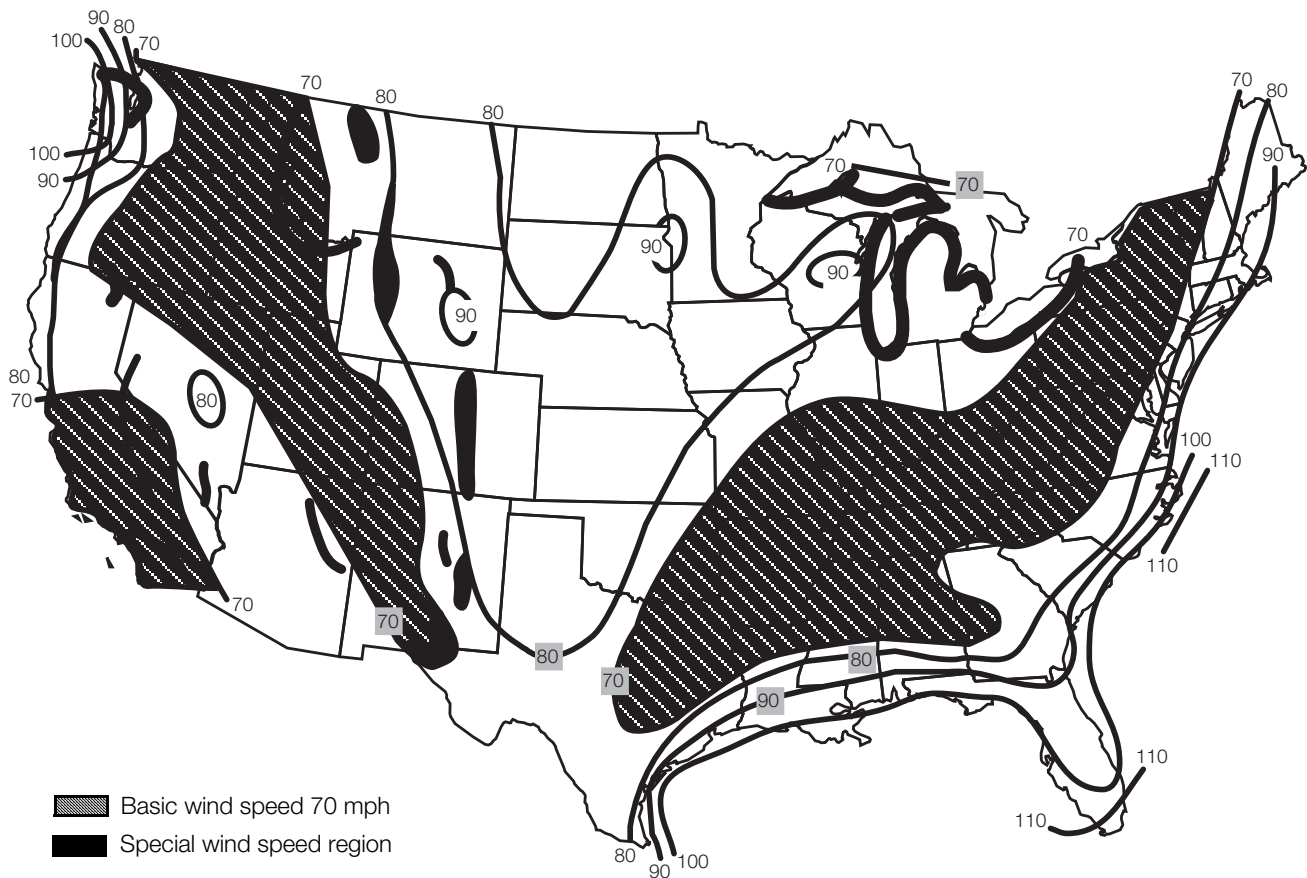
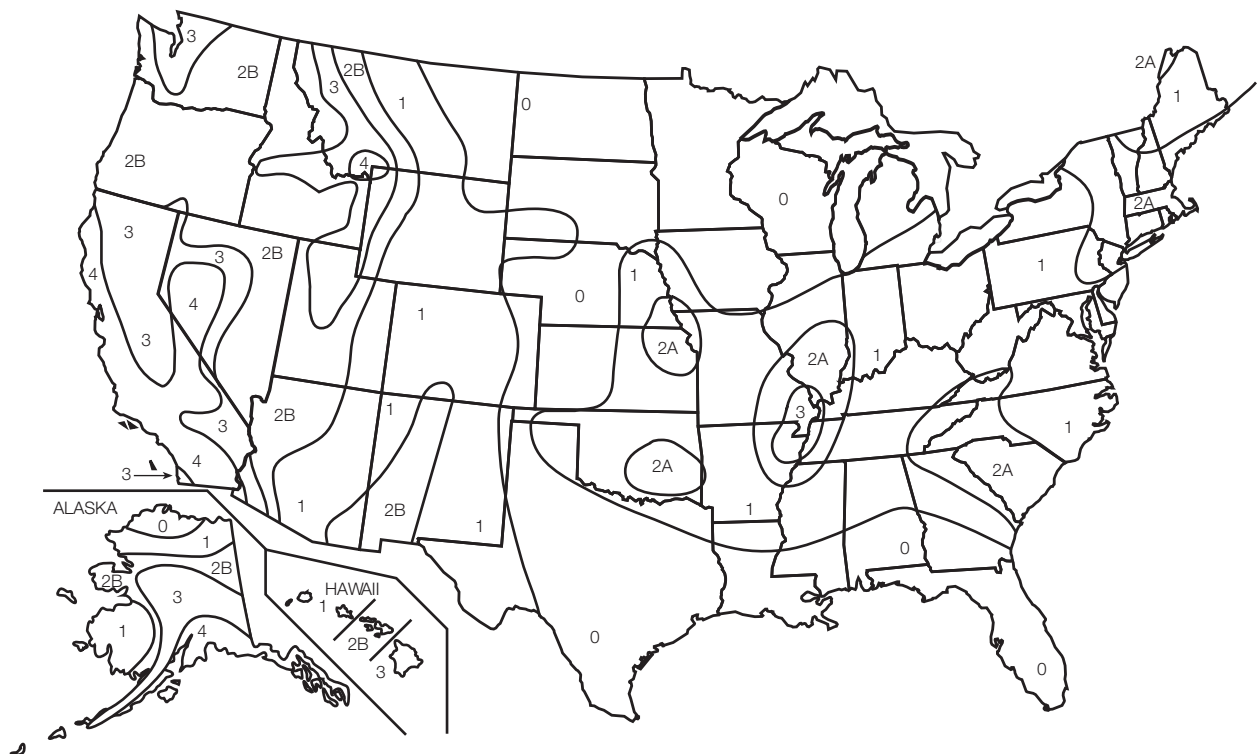

Figure 17-4. Wind Speed Contours Map
Figure 17-5. Seismic Zone Map
A structural engineer is required to ensure the vessel and mounts are properly sized and designed for the specific location's likelihood of damage due to wind and seismic forces (see Figure 17-4 on page 73 and Figure 17-5 on page 74). There are many variables to consider when determining if a system is structurally sound, examples include the geological make-up of the application site and the vessel's foundation design.
- Minimum basic wind speed: This may be taken from Figure 17-4 on page 73, which is a map of the USA superimposed with wind speed contours. This map is based on a 50-year mean recurrence interval which has traditionally been accepted as a reasonable risk. If local records indicate higher 50-year wind speeds, then the higher values should be used. This map does not consider the effects of tornadoes.
Figure 17-5 is a seismic zone map of the United States. The zones are numbered 0 (little likelihood of damage) through 4 (likelihood of major damage) which indicate, on an ascending scale, the severity of damage likely as the result of earthquakes. The effects of seismic forces should be considered on vessels being installed in zones 1 through 4.
- The seismic zone (from **Figure 17-5**) in which the vessel will be installed.